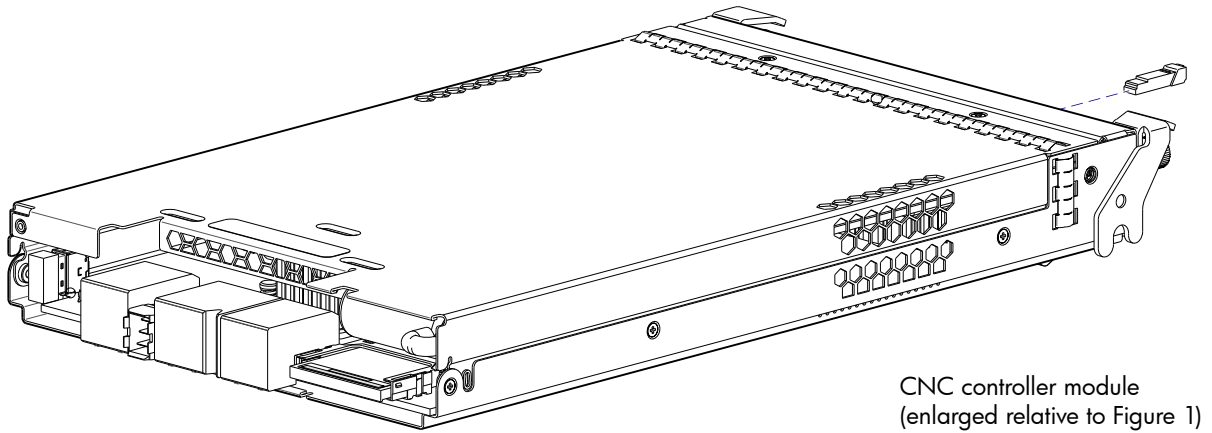

Figure 9 6004 Series CNC controller module with SFP transceiver
6	Controller module for enclosure [two per controller enclosure] (see Figure 9 on page 20)
8	Controller module for enclosure [two per controller enclosure] (see Figure 9 on page 20)
- Controller module pictorial — Figure 9